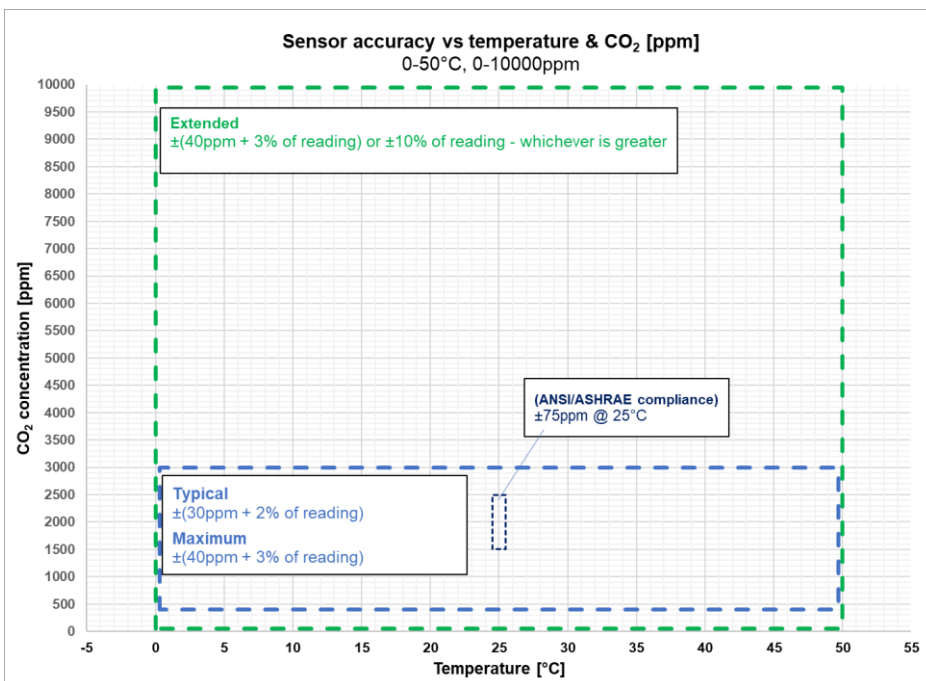

Figure 4 Accuracy over complete operating range (temperature and measurement of CO2).
- Note 3: ANSI/ASHRAE Addendum ab to ANSI/ASHRAE Standard 62.1-2022 specifies sensor to be accurate within ±75 ppm at concentrations of 600, 1000, and 2500ppm when measured at sea level at 77 °F (25 °C). See Figure 4.
- Note 4: In normal IAQ applications. Accuracy is defined after minimum three (3) ABC periods of continuous operation with ABC on. Some industrial applications do require maintenance. Contact Senseair for further information!